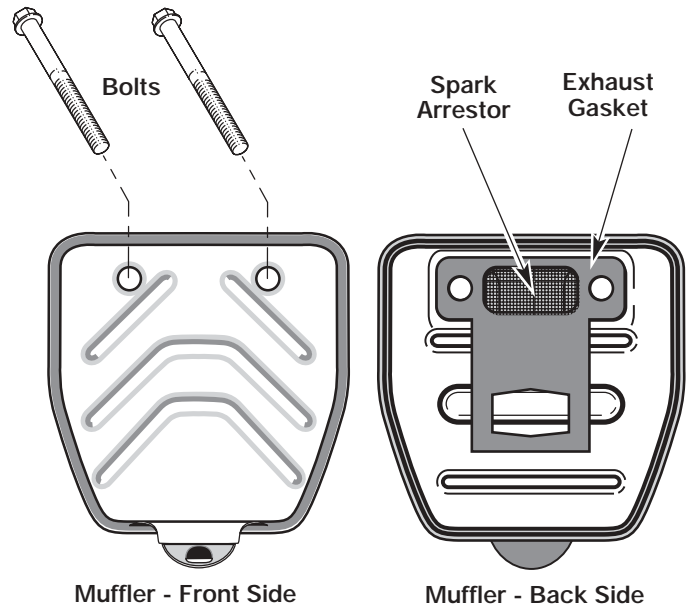

Fig. 22
2. Locate muffler front and the two (2) bolts securing it to the engine (Fig. 22). Remove the two (2) bolts using a T-25 or T-27 Torx bit screwdriver or 5/16-inch socket or nut driver. Pull muffler off of the engine.
3. Turn muffler over to the back side and locate the exhaust gasket. Remove the muffler gasket from the muffler (Fig. 22).
7. Place the exhaust gasket against muffler's back side. Align the gasket bolt holes with the bolt holes in the muffler. While holding exhaust gasket in place, insert the bolts into the muffler's front side (Fig. 22).